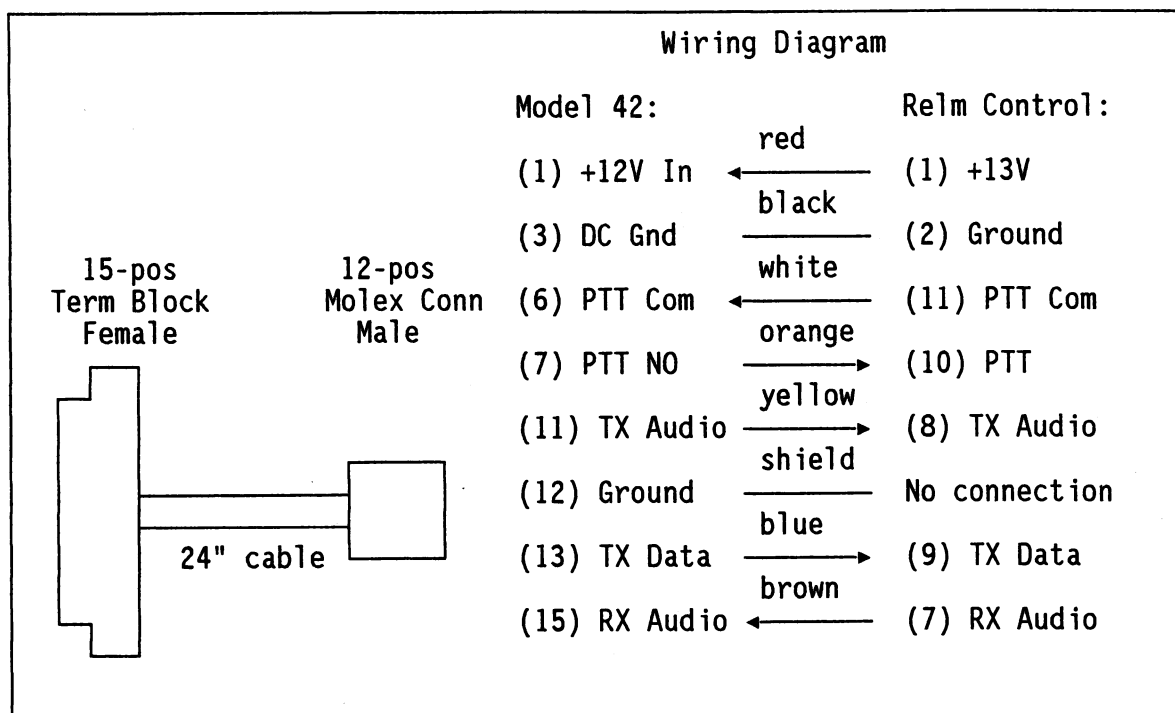

Figure 4-13. Model 42 to ReIm Repeater Cable (P/N 709-7148)
- []12. Connect the Model 42 to the Relm bulkhead connector with the repeater cable (709-7148), which is part of the Zetron cable kit (815-9071). Refer to Figures 4-13 and 4-14 for cable wiring and bulkhead connector location on the repeater.